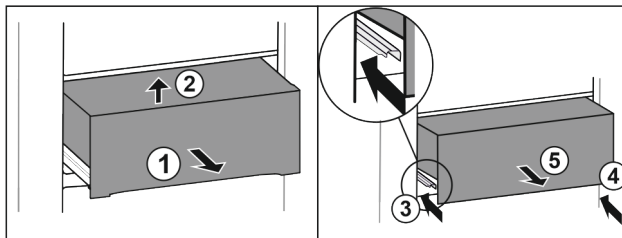

Fig. 22
- ▶ Pull out the drawer half-way Fig. 22 (1).
- ▶ Lift at the front Fig. 22 (2).
- ▶ Insert left rail Fig. 22 (3).
- ▶ Insert right rail Fig. 22 (4).
- ▶ Take out the drawer to the front Fig. 22 (5).